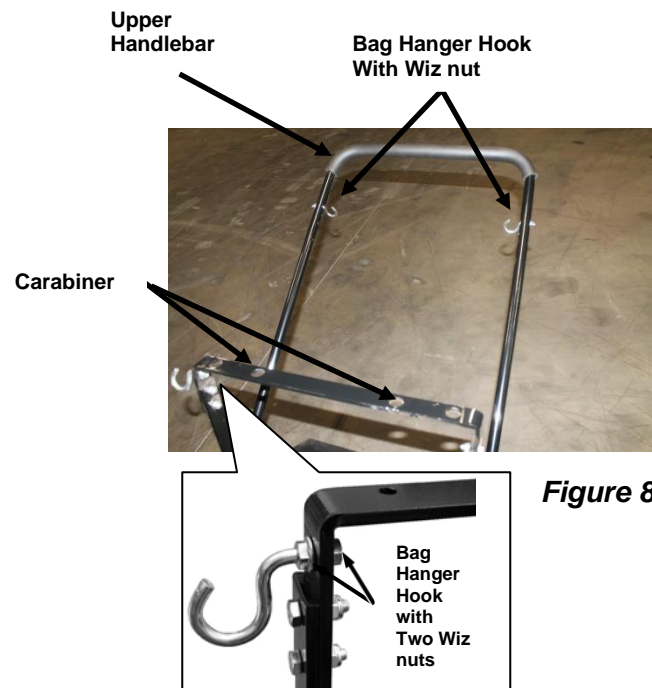

Figure 8
4. Locate the two Carabiners, three Bag Hanger Hooks and four 5/16-18 Wiz Nuts included in the Bolt Bag. Mount the two upper Hooks through the upper holes in the Handlebar Assembly with the Hooks on the inside (**Figure 8**). Secure with a Wiz Nut on the outside of the Upper Handlebar.